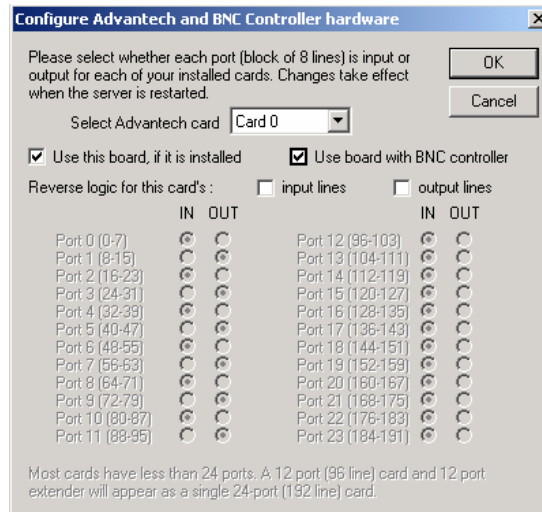

Figure 4. Configure Advantec and BNC controller hardware.
13. In whisker server click *configure hardware – BNC controllers and Advantec I/O hardware*. Check card zero is selected and the *Use board with BNC controller* box is ticked. See figure 4.